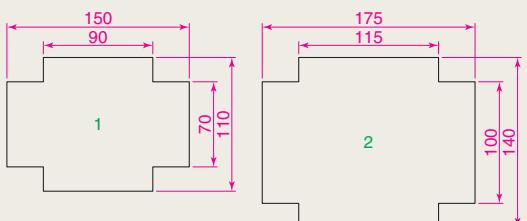

Fig. 5.55 Exercise 9
9. Construct the left-hand drawing of Fig. 5.55. Include the dimensions in your drawing. Then, using the **Stretch** tool, stretch the drawing, including its dimensions to the sizes as shown in the right-hand. The dimensions are said to be **associative**.